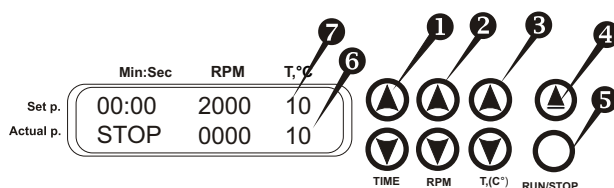

Fig.3 Control panel
4.3. Press the “▲” key (fig.3/ ❹) and open the lid lifting it upwards with a hand (it is possible to open the lid only when the rotor is stopped).
4.6. With the “▲” and “▼” T,°C keys (fig. 3/ ❶) set the required temperature (in range -10...+25 °C (RT), increment 1 °C). Note that the temperature can also be adjusted during operation.
Note! For better temperature transmission with the “▲” and “▼” RPM keys (fig.3/ ❷) set the rotor speed 500 RPM. Press **RUN/STOP** key (fig. 3/ ❸) to start centrifugation.
4.7. Check the set temperature achievement with the display. The actual temperature is shown in the lower line of the display (fig.3/ ❺). Press **RUN/STOP** key (fig. 3/ ❸) to stop centrifugation.
4.8. Press the “▲” key (fig.3/ ❹) and open the lid lifting it upwards with a hand (it is possible to open the lid only when the rotor is stopped).
- 4.10. With the “▲” and “▼” **RPM** keys (fig. 3/ ❷) set the required speed (100-4200 RPM, increment 100 RPM) depending on rotor. Note that the speed can also be adjusted during operation.
- 4.11. With the “▲” and “▼” **TIME** keys (fig. 3/ ❶) set the required time interval (0-90 min, increment 1 min).
- 4.12. Press **RUN/STOP** key (fig. 3/ ❸) to start centrifugation. Blinking indication RUN and current speed is displayed in the lower line. The timer in the upper line starts countdown after the set speed is achieved (stable indication RUN).
- 4.13. Centrifugation is stopped automatically after the set time elapses (while braking display shows blinking indication STOP). A sound signal is emitted after full stop of the rotor (press **RUN/STOP** key (fig.3/ ❸) to stop the signal).
- 4.15. Clean the ice and remove condensation water from the chamber regularly with a soft cloth (see p.6.4). For easy cleaning the centrifuge chamber is equipped with a drain hole and hose (fig.3/ ❷).